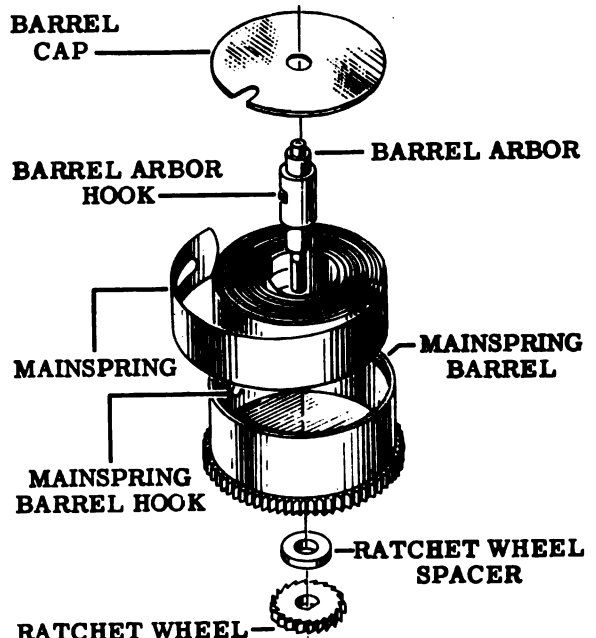

Figure 57
- Lift out the mainspring barrel along with ratchet wheel and ratchet wheel spacer. See Fig. 57.
8. To remove the barrel cap, hold the barrel tightly in one hand and strongly hit the squared end of the barrel arbor with a plastic- or wood-headed hammer. The shoulder of the arbor will transmit this force directly to the inside of the cap and force it out. See Fig. 57.
9. Unhook the barrel arbor from the mainspring and remove the arbor. See Fig. 57.